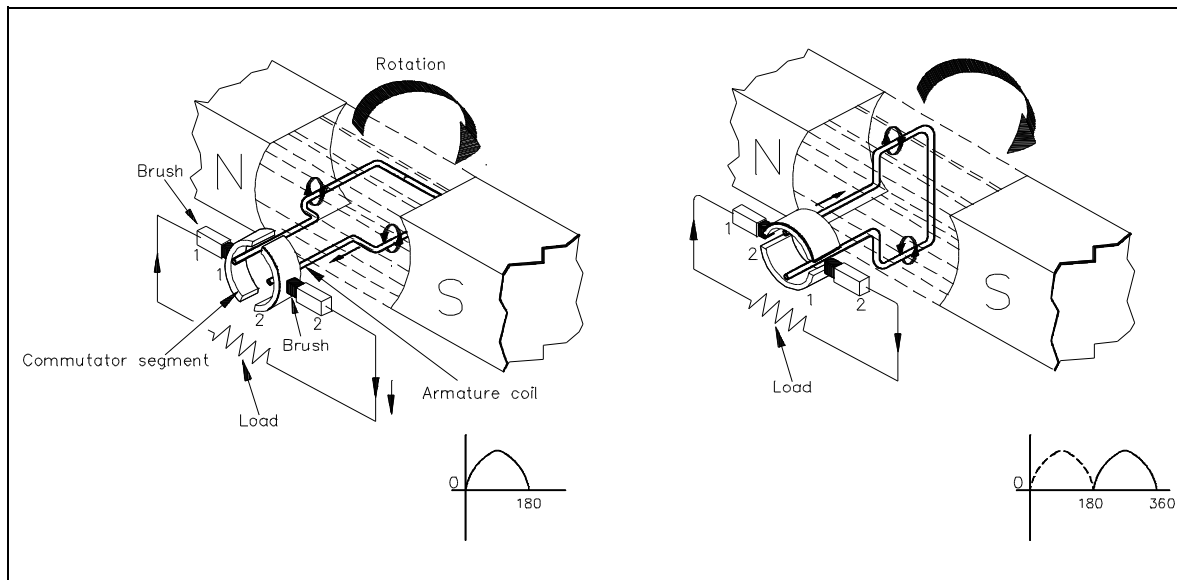

Figure 3 Basic Operation of a DC Generator
A basic DC generator has four basic parts: (1) a magnetic field; (2) a single conductor, or loop; (3) a commutator; and (4) brushes (Figure 3). The magnetic field may be supplied by either a permanent magnet or an electromagnet. For now, we will use a permanent magnet to describe a basic DC generator.